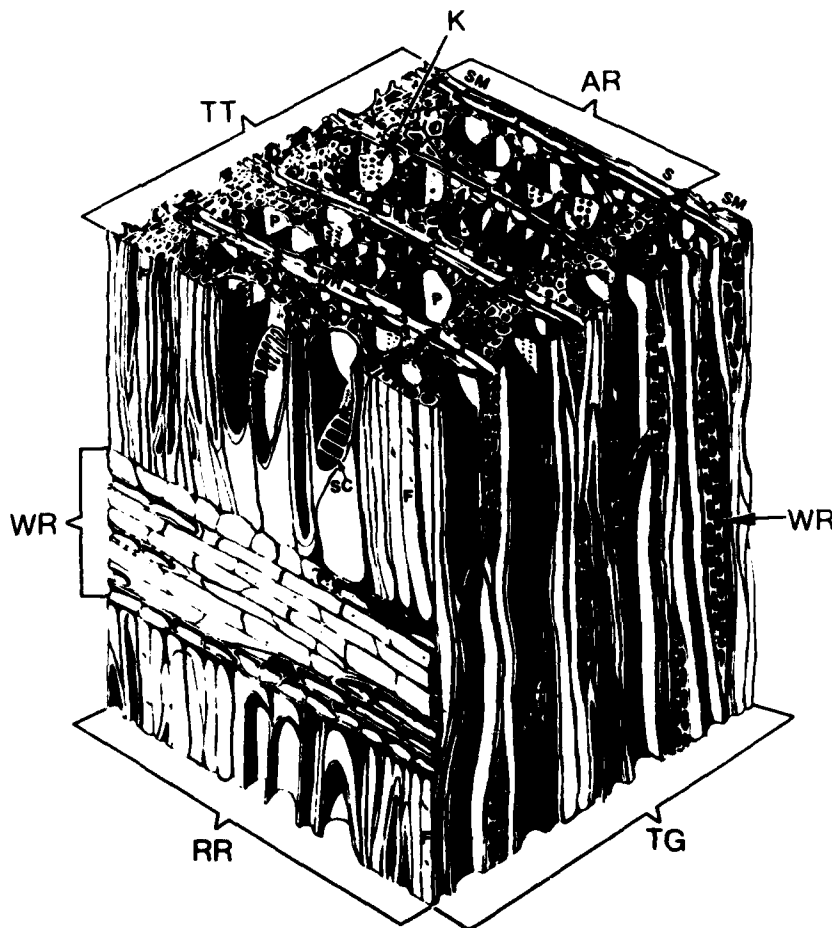

Fig.1 Cell structure of a hardwood
Figure 1 is a drawing of a cell structure of yellow-poplar as an example of a minute block of hardwood. The drawing shown here represents a block about 1/32 inch high. The horizontal plane TT of the block corresponds to a minute portion of the top surface of a stump or end surface of a log. The vertical plane RR to the left corresponds to a surface cut parallel to the radius; and the vertical plane TG to the right corresponds to a surface cut at right angles to the radius, or tangentially within the log. In hardwoods, these three major planes along which wood may be cut are known in common practice, respectively, as end grain (TT), quarter-sawed (RR), and plain-sawed (TG) surfaces.